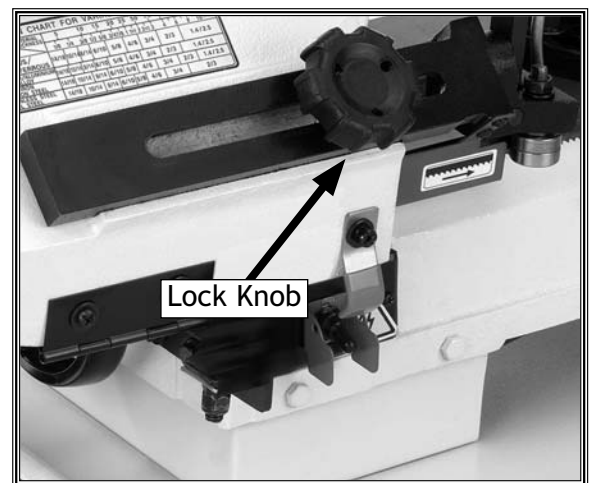

Figure 32. Blade guide position lock knob.
8. Tighten the jam nuts and slide the blade guide close to the workpiece so the blade is supported and will not twist during the cut (see **Figure 32**).